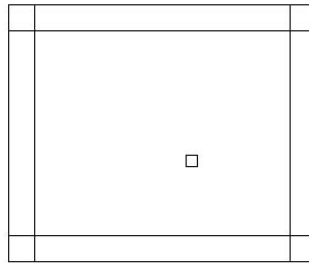

FIGURE 2.12: Four lines have been offset.
6. Click a third line, click inside the box, click the fourth line, and then click again inside the box (see Figure 2.12).